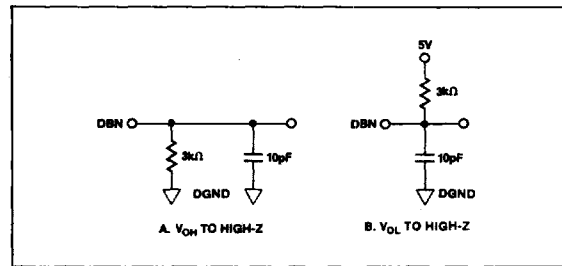

FIGURE 2: Load Circuits for Output Float Delay
- t_7 is the time required for the data lines to change 0.5V when loaded with the circuits of Figure 2.